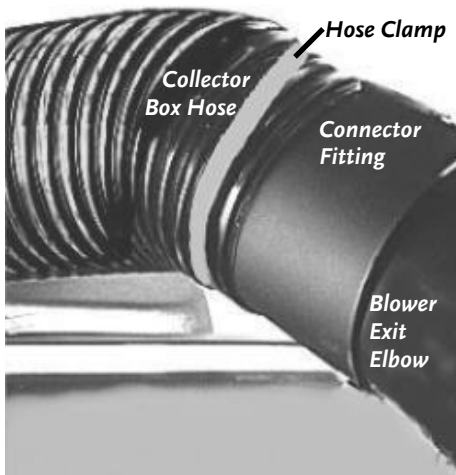

Figure 41
1. Disconnect the Collector Box Hose from the Blower Exit Elbow by loosening the Hose Clamp with a screwdriver or nut driver (**Figure 41**) and separating the Hose from the Connector Fitting. Leave the loose Clamp on the Fitting.